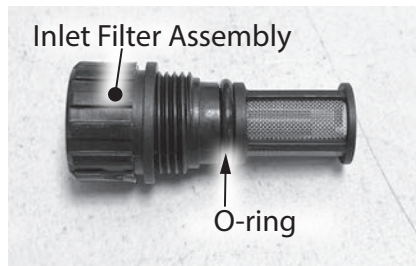

Figure 206 - O-ring location
**3** Locate the emission port cap at the outlet exhaust port on the water heater as shown in Figure 206.